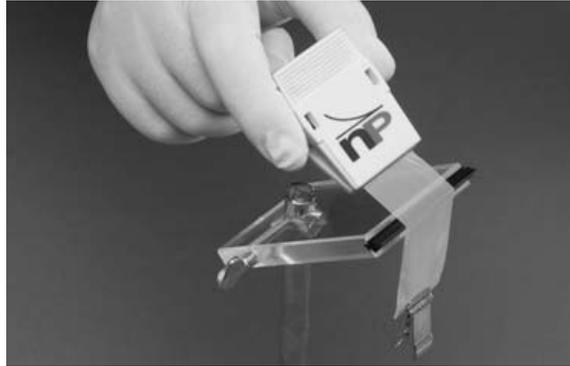

Figure 6
4. Holding the filter by the large clamp, with the small clamp attached to the other end and hanging free, wipe the cells off the non-migrated side of the filter by drawing the filter up over the wiper blade (*Fig. 6*). The blade should first contact the filter just below the jaws of the wide clamp. Use only gentle pressure against the blade, and maintain an angle of about 30° from the vertical for the portion of the filter above the wiper. It is important to complete the wiping carefully and quickly so that the cells will not dry on the filter. Drying takes place in 10-20 seconds, and will prevent complete removal of the non-migrated cells.